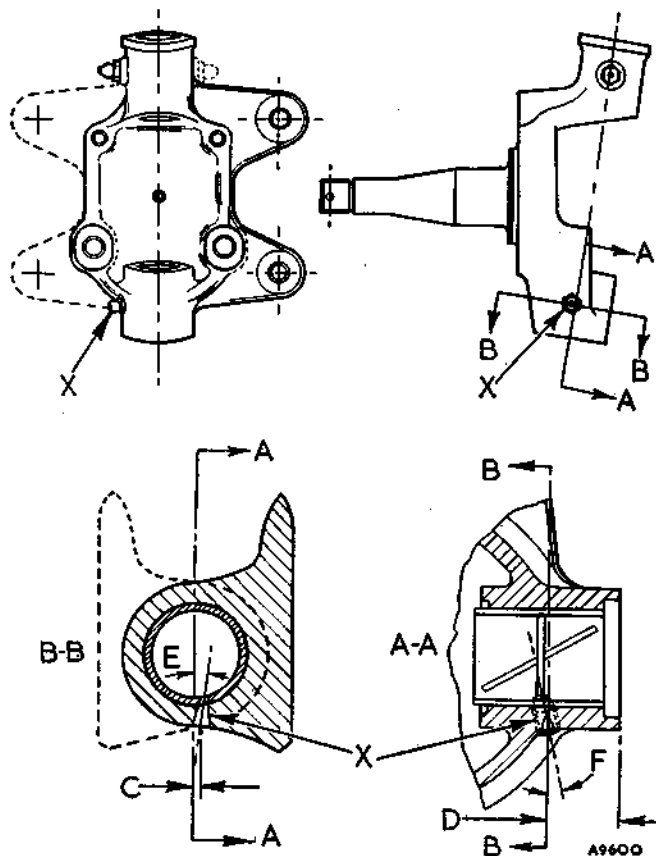

Fig. K.4
- Using a No. 3 (.213 in. (.541 mm.)) drill, carefully drill each swivel axle in the position shown at 'X' in Fig. K.4.